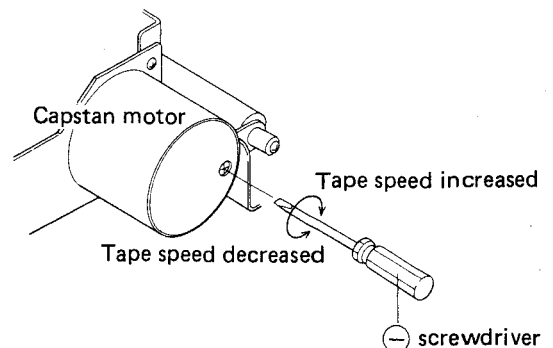

Fig. 7-2 Tape speed adjustment
2. Playback the 3kHz portion of the STD-301 test tape. At the beginning, the frequency should be lie within the 2995Hz ~ 3010Hz range, and may be adjusted by turning the semi-fixed resistor located in the capstan motor adjustment hole as shown in Fig. 7-2.